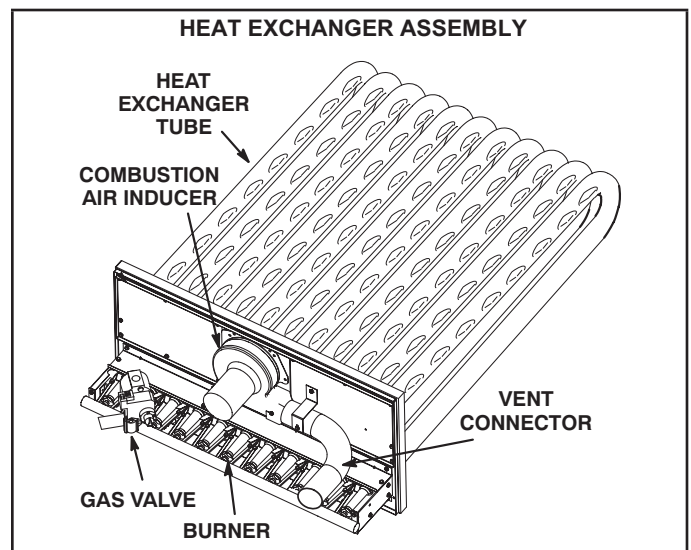

FIGURE 33
- 3 - Remove and retain screws securing combustion air inducer to flue box. Remove and retain two screws from bracket supporting vent connector. See FIGURE 33.